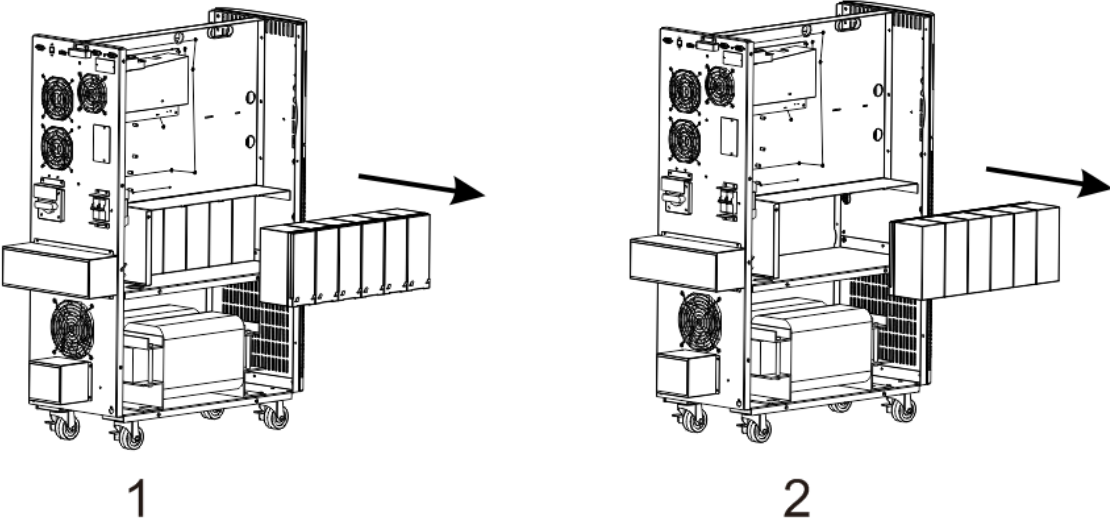

FIG. 7
18. Remove both sets of batteries from the third row and set aside (FIG. 7).